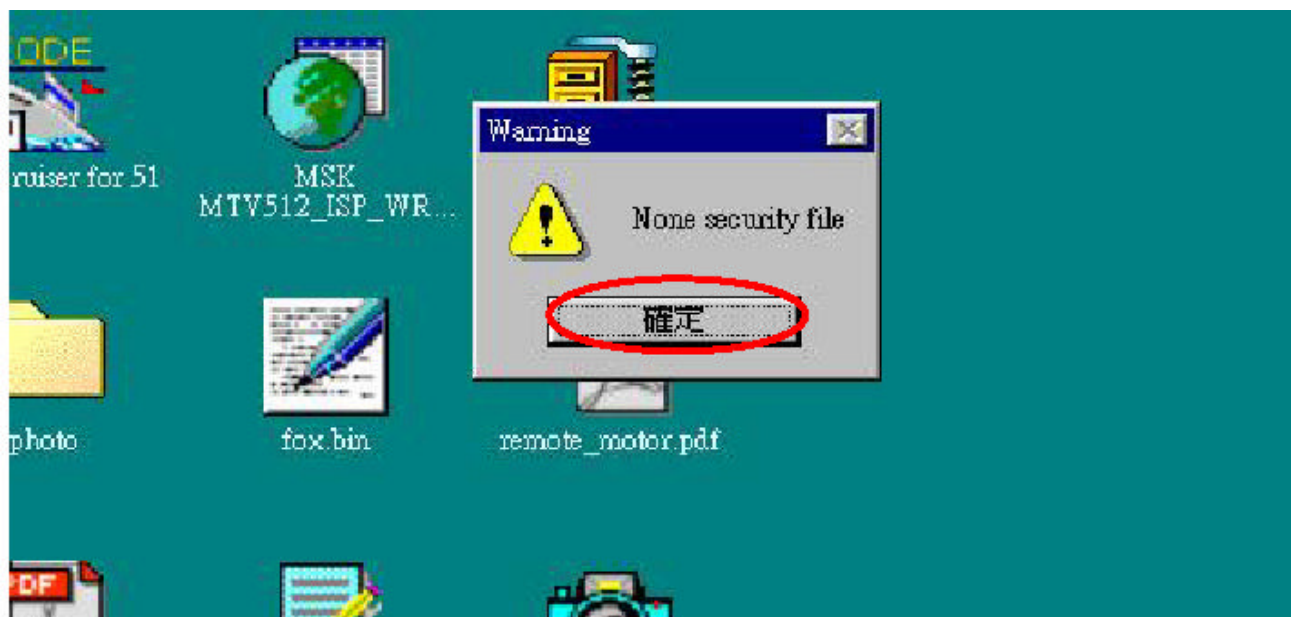

Fig 2.2
8.2 The security file is a key to use ISP functions; press the "OK" button. See Fig 2.2.